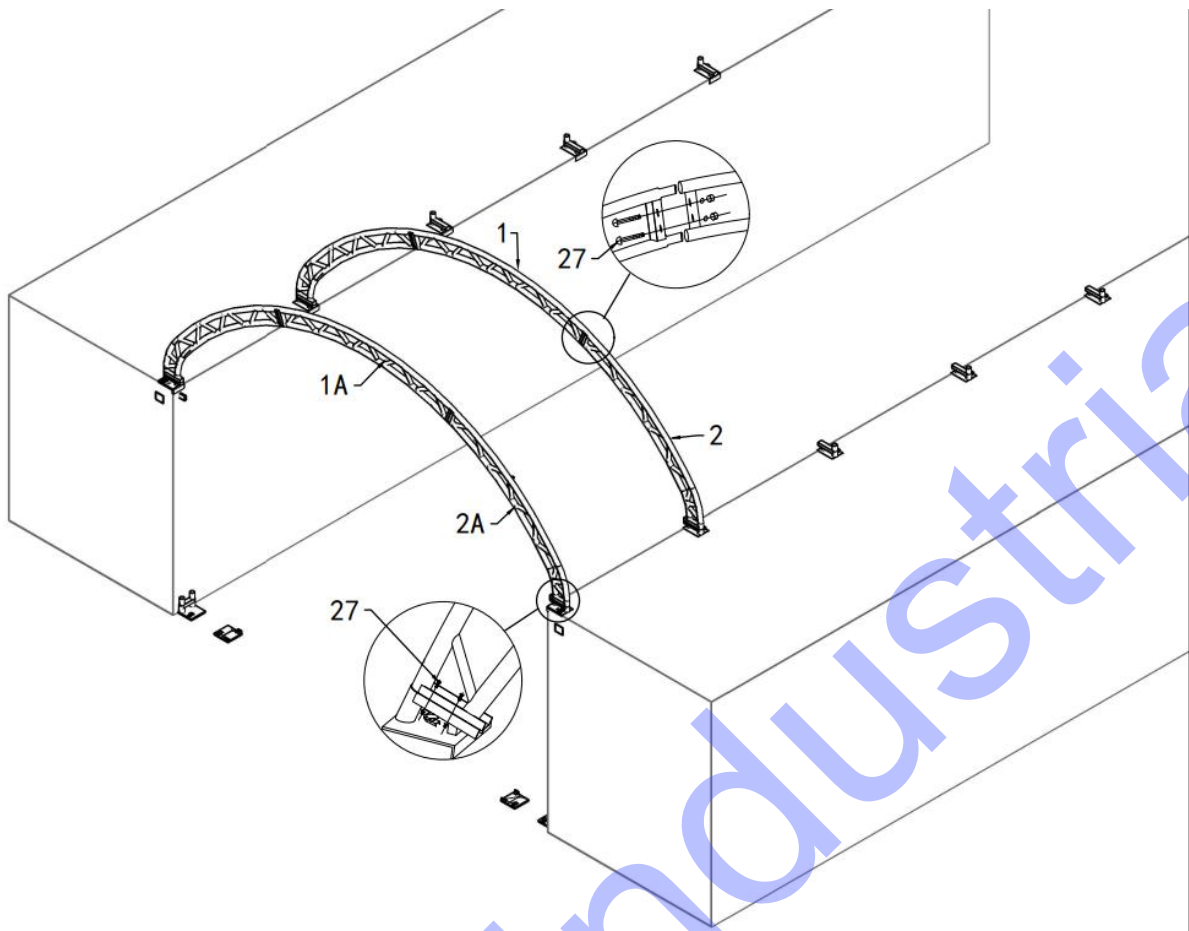

Figure 4
2. As Figure 4 shown to connect the arches and base plates with Bolt M 12*30mm(NO.27)
3. As Figure 4 shown, After finish installing the first two arches, connect the Connection purlin NO.3 on them by using NO. 31 Carriage Bolt M8*60mm. Then install the third arch into base plate and connect of her purlins. Do one by one.